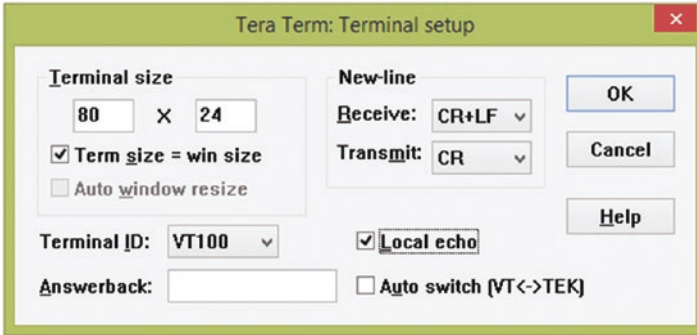

Figure A-5. Terminal Setup dialog box
2. Select Terminal from the Setup menu. In the Terminal setup dialog box (see Figure A-5), choose CR+LF for New-line Receive. Check the Local Echo box as well.